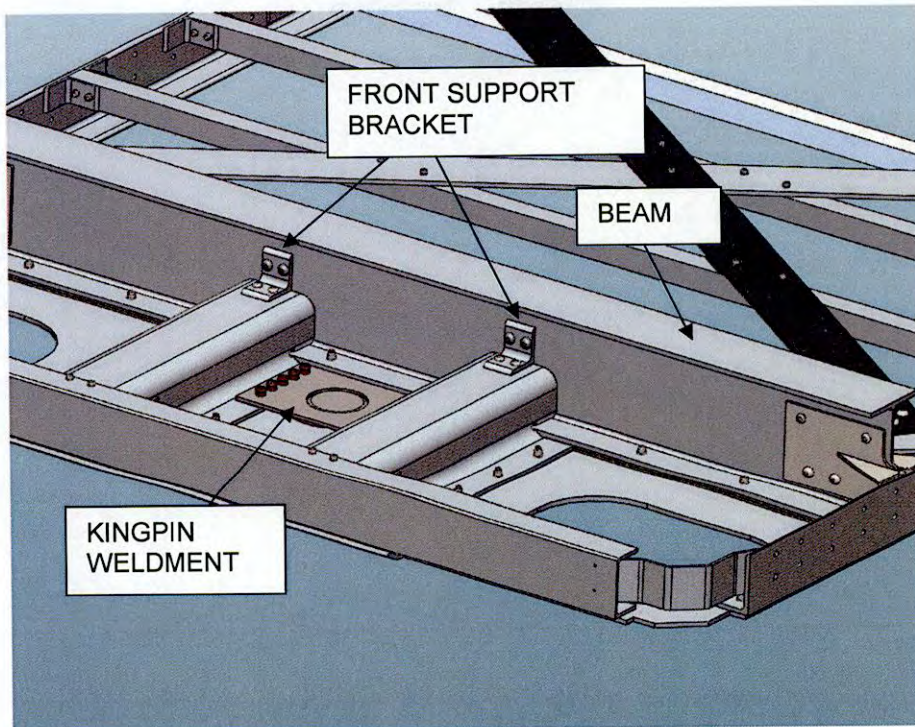

Figure 5
2. Remove the front support brackets and discard them. See Fig. 5.